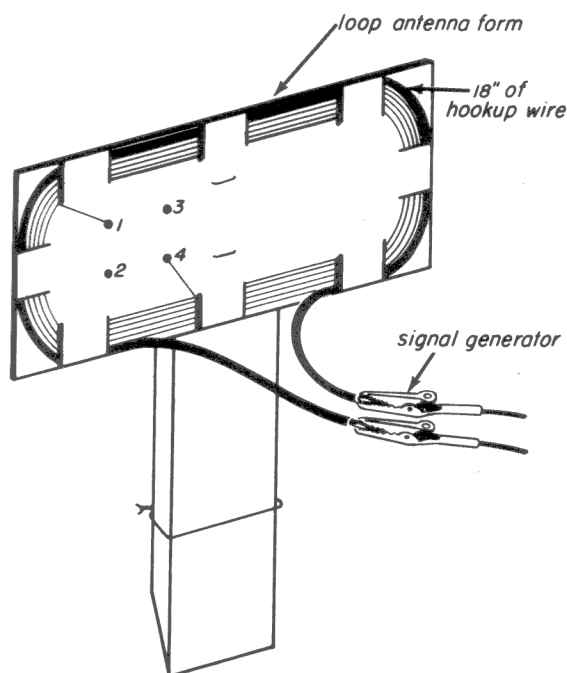

Fig. 33-6
Step 4. Cut an 18-inch length of hookup wire and strip about 1/2-inch of insulation from each end. Insert the wire into the slots in your loop antenna form, as shown in Fig. 33-6, and connect your signal-generator cable across the ends of the wire as shown. Set the RF ATTEN control to about midposition.
Step 5. Check to see that the signal generator is on, modulation off, and connected to the loop antenna as in Fig. 33-6.